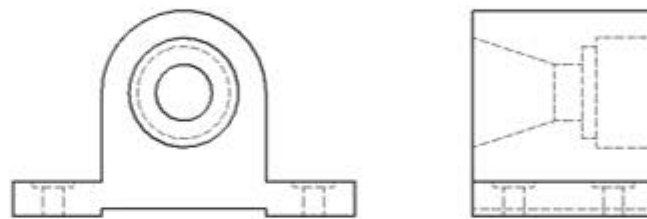

Figure 25–59
2. If you have already placed a front view of a part in a drawing, which tool most easily creates a side view aligned with the front view, as shown in Figure 25–59?